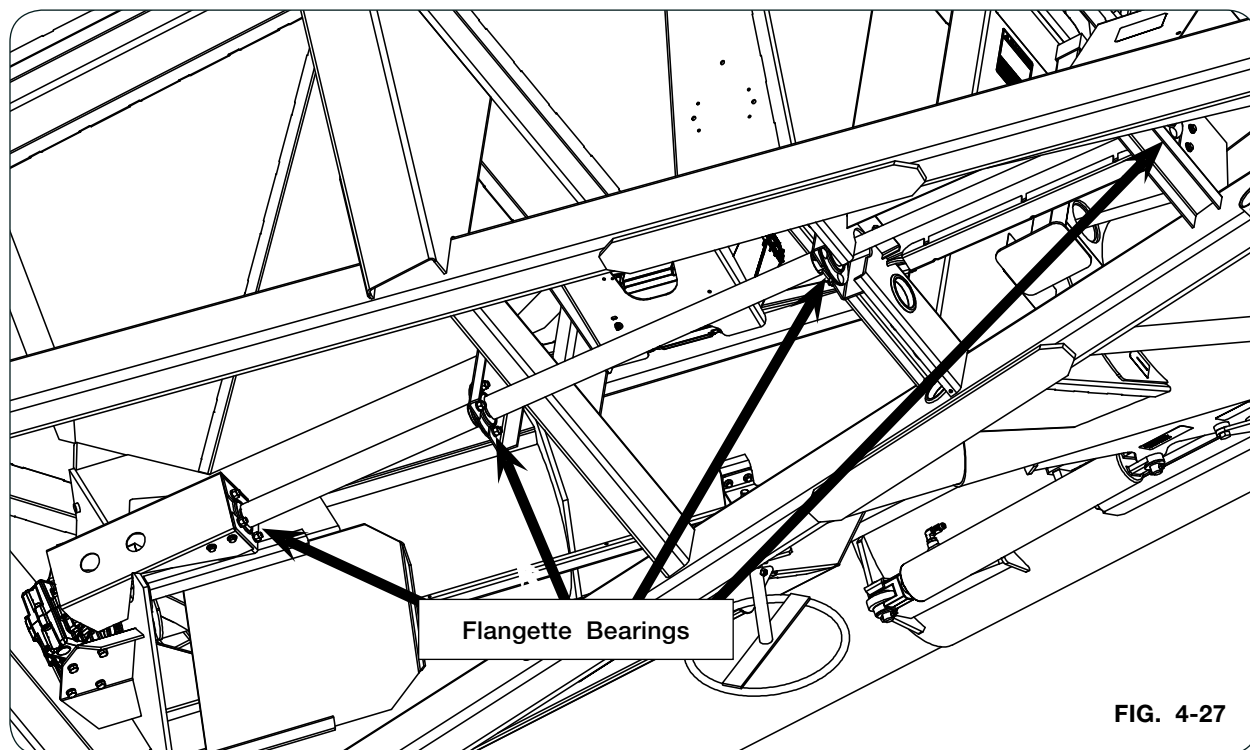

FIG. 4-27
2. Loosen the setscrews (9399-210) on all flange bearings (9005061) (FIG. 4-27).